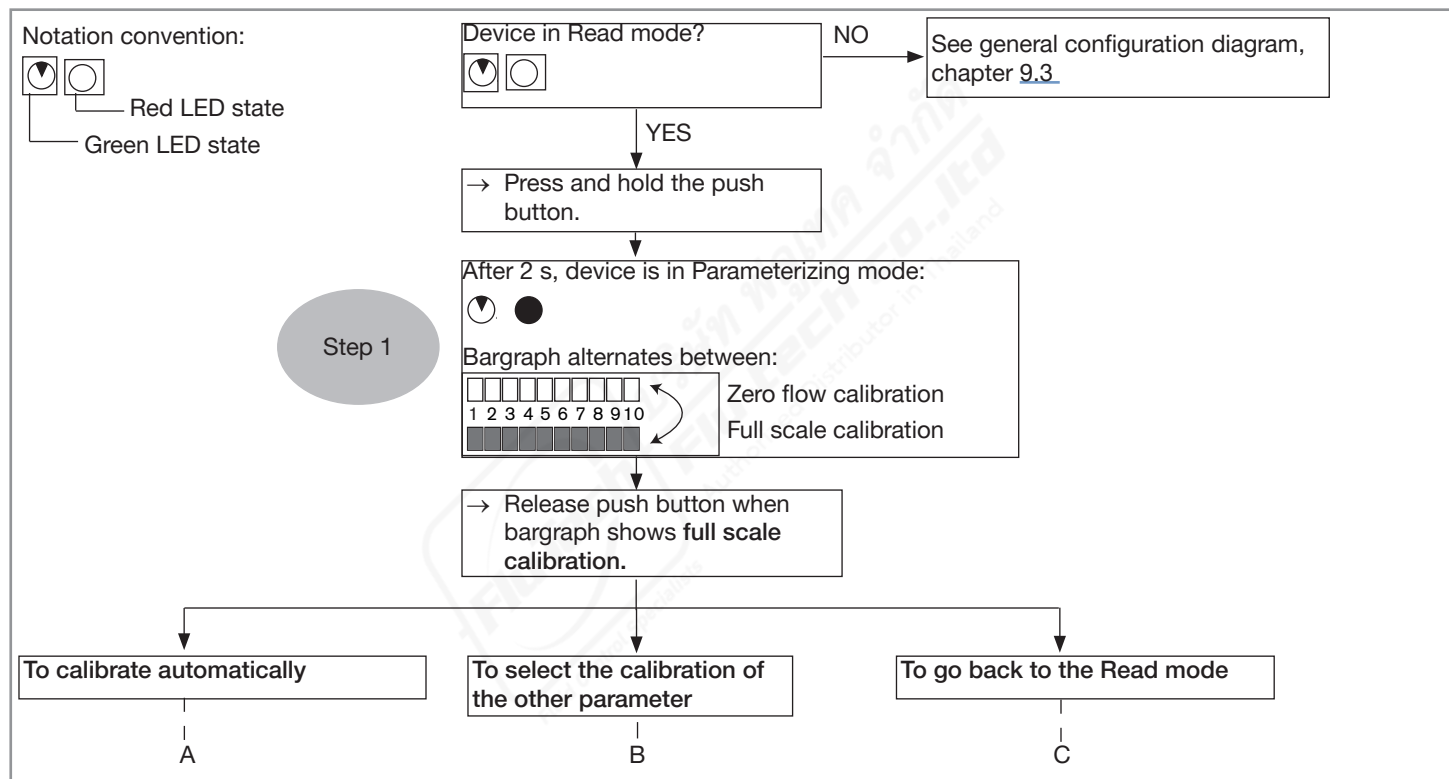
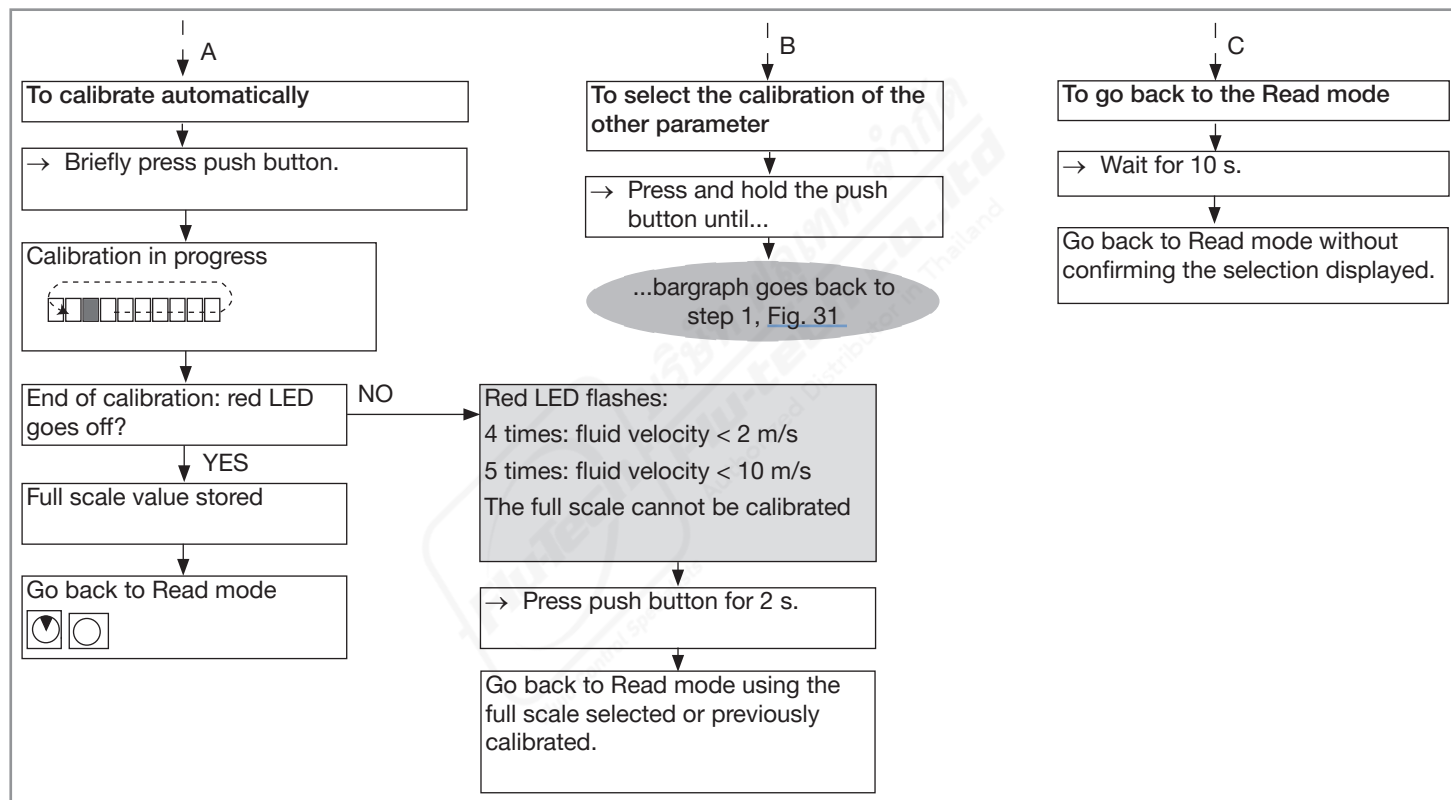

Fig. 31: Calibration of the full scale, part 1
Fig. 32: Calibration of the full scale, part 2
- Calibrate the full scale, see Fig. 31 and Fig. 32.